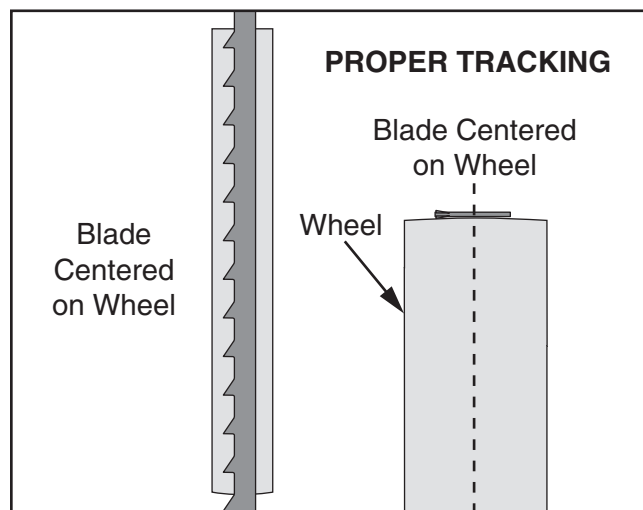

Figure 23. Example of blade centered on wheels.
11. Turn blade tension lever slightly counter-clockwise to apply a light amount of tension to hold blade in place. Work your way around blade to adjust blade position so blade is centered on wheels (see **Figure 23**).